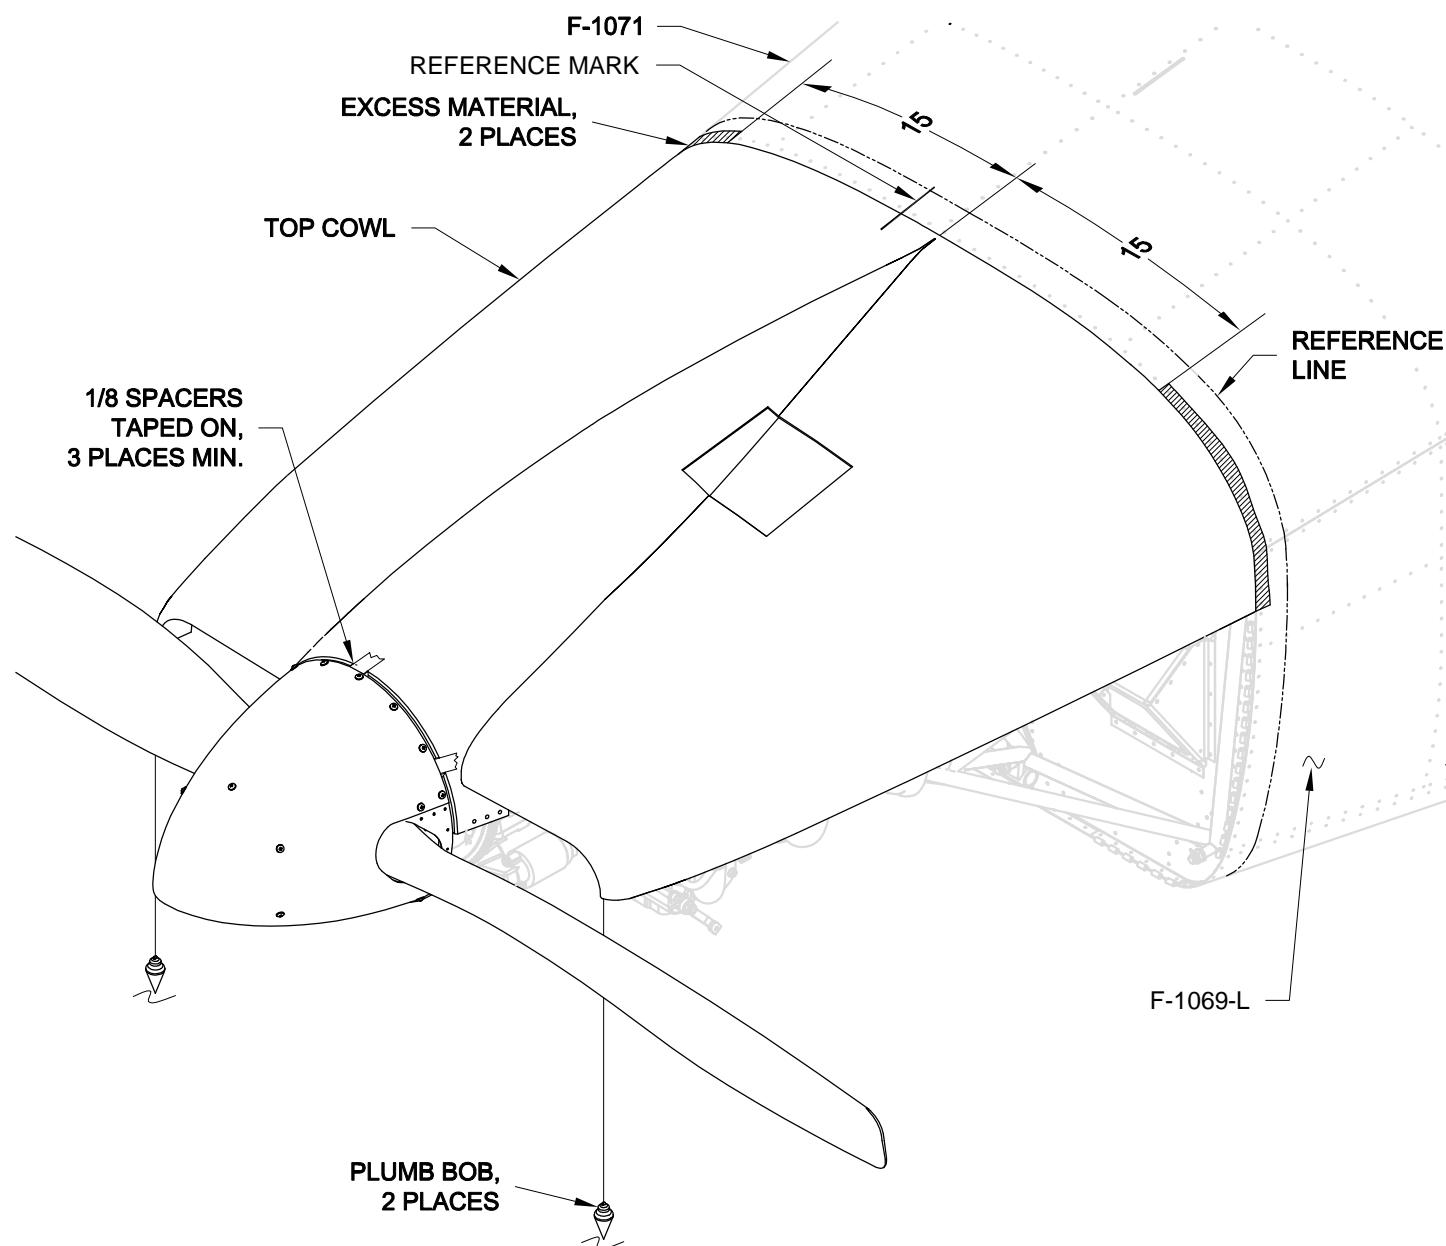

FIGURE 1: FITTING THE TOP COOL
Step 3: Level the aircraft laterally. Place the top cowl on the aircraft, centering it behind the spinner. Hang plumb bobs from symmetrical points on the forward edge of the top cowl air inlets to the floor as shown in Figure 1. When the length of the plumb bobs is equal, the top cowl is level with the aircraft. Make a reference mark on the aft edge of the top cowl that extends onto the F-1071 Fwd Fuse top Skin.